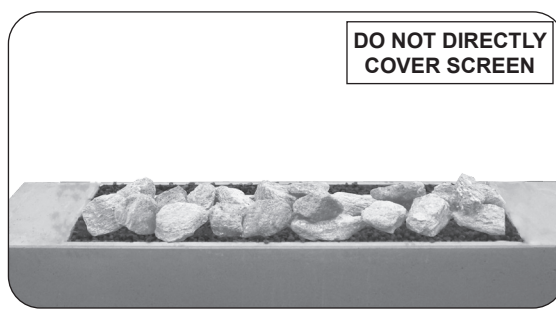

Fig. 32-2 Volcanic stones option
2. Pour the volcanic stones evenly into the burner area (see Fig. 32-2). **Store any excess media in a safe location.**